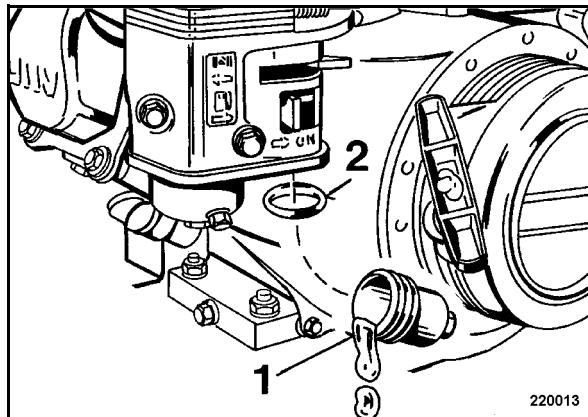

Fig. 42
- Unscrew the fuel sludge filter 1 (Fig. 42) with the fuel cock closed and wash it out with fuel.
- Turn the fuel sludge filter in tightly and mind the O-ring (2).